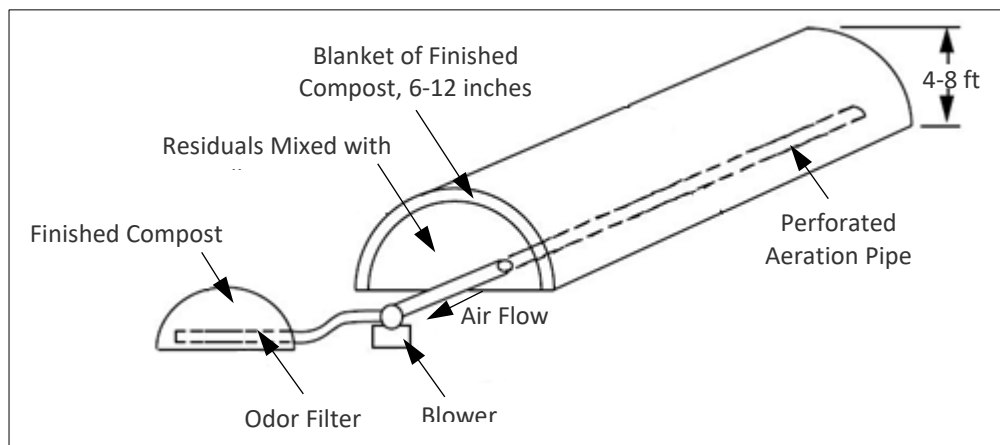

Figure 4-7. Composting with force air.
- **Forced air static pile method.** Raw or digested residuals are mechanically mixed with a bulking agent and stacked into long piles over a bed of perforated pipes through which air is blown into the compost piles to maintain aerobic conditions (Figure 4-7).